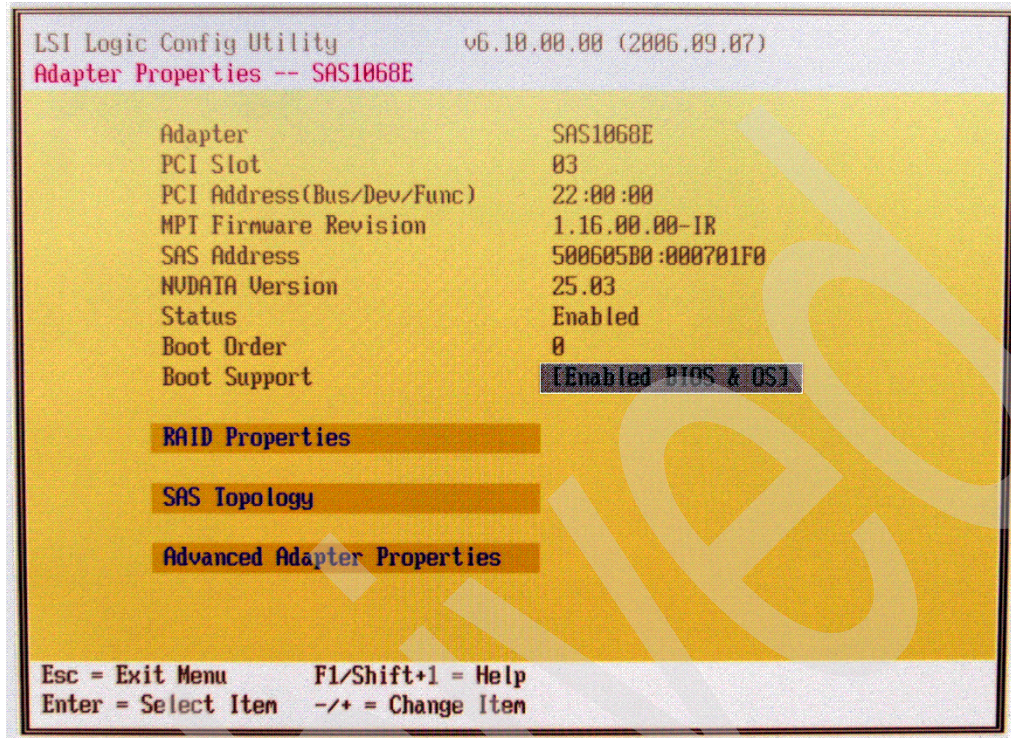

Figure 9-13 SAS Address
3. The adapter BIOS is now displayed, which shows you the SAS Address (Figure 9-13). This is the identifier of the SAS HBA, in our example, this is 500605B0:000701F0.